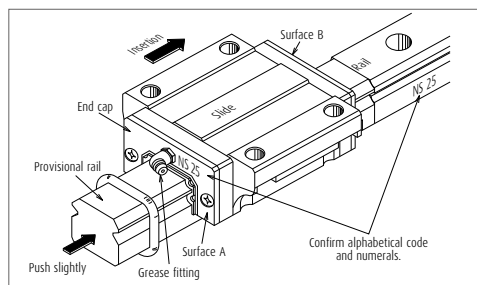

Fig. 10.23 Inserting slide into the rail
- › Slides of random-matching type are assembled on a provisional rail (an inserting tool) when it is delivered (Fig. 10.23).
- (1) Wipe off the rust preventive oil from the rail and slide.
- (2) Please match a groove mark for the datum surface of slide and rail to set a desired assembling state W_2 or W_3 .
- (3) Align the provisional rail to the rail in the bottom and side surfaces. Press the provisional rail lightly against the rail, and move the slide over the rail (Fig. 10.23).